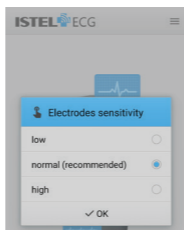

Fig. 18
- **Electrode sensitivity.** The Istel HR-2000 ECG Recorder should not be pressed to the skin too strongly during measurement, so that trembling of arm muscles does not disrupt measurement. If there is a problem with contact between an electrode and the skin, it will be signaled in red (see Fig. 6), and electrode sensitivity should be changed to high (Fig. 18).
ECG signal is too weak.	Increase the recorder's sensitivity in the „Electrode sensitivity“ tab Fig. 18.